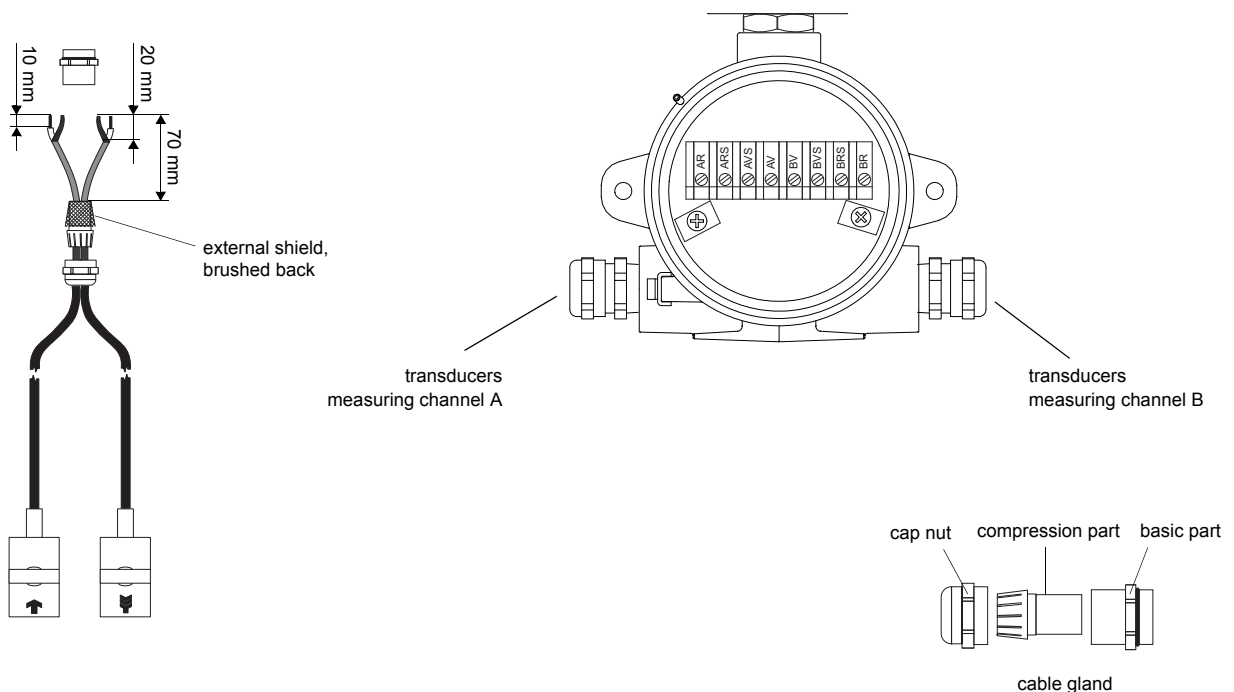

Fig. 7.6: Connection of the transducer cable
- Remove the blind plug for the connection of the transducer cable (see Fig. 7.6).